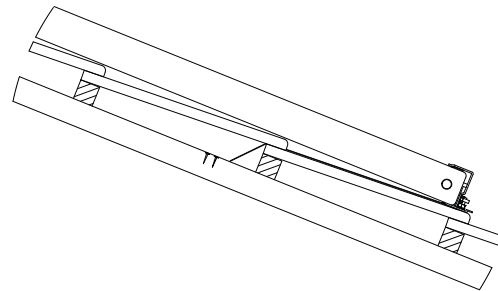

Figure 16 - Mount collector on Roof
- Push down on the collector retainers to clamp the collector and tighten the nuts as shown in **Figure 16**.